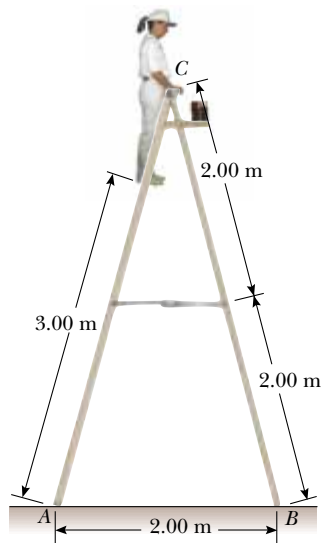

Figure P12.59
59. A stepladder of negligible weight is constructed as shown in Figure P12.59. A painter with a mass of 70.0 kg stands on the ladder 3.00 m from the bottom. Assuming that the floor is frictionless, find (a) the tension in the horizontal bar connecting the two halves of the ladder, (b) the normal forces at A and B , and (c) the components of the reaction force at the single hinge C that the left half of the ladder exerts on the right half. (*Hint:* Treat each half of the ladder separately.)